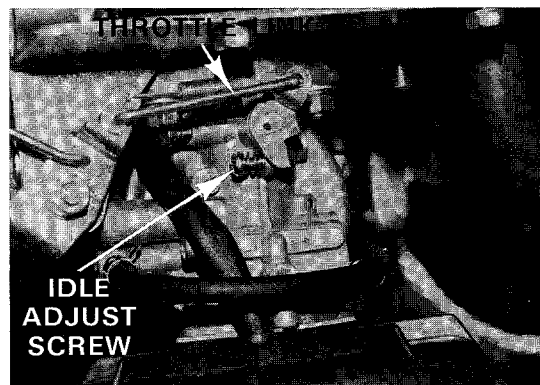

Figure 7-9
9. Disconnect throttle linkage and remove carburetor (Figure 7-9).